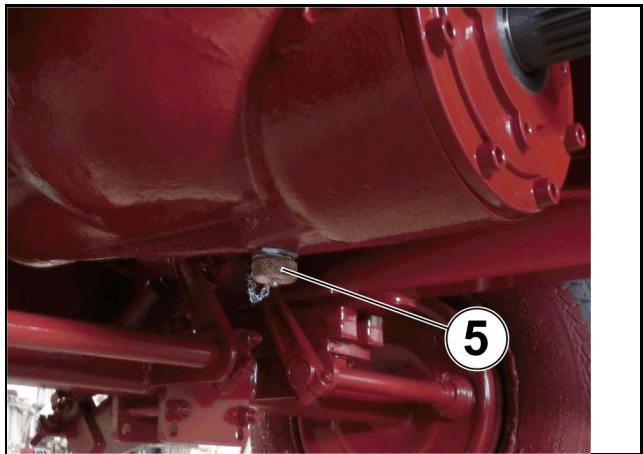
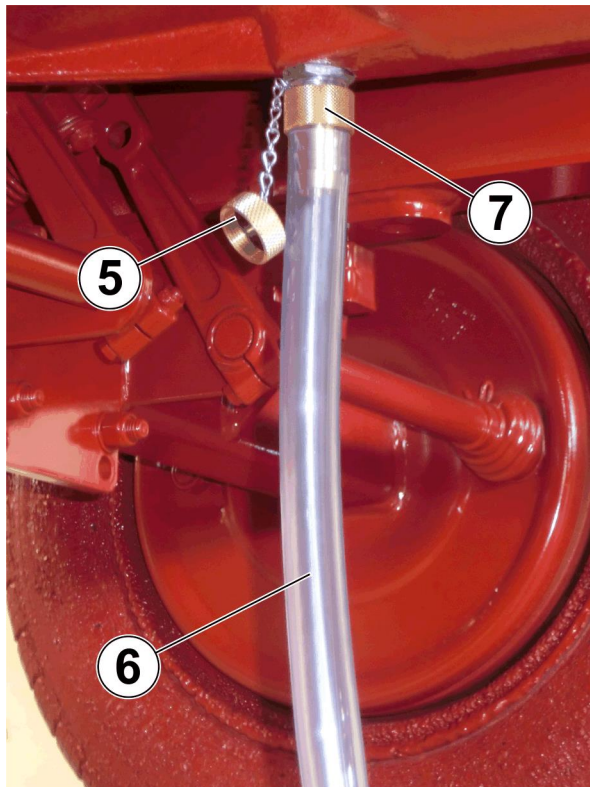

Fig. 84
Fig. 85
7. Place the drip tray beneath the drain valve (Fig. 84/5) of the mixer gearbox.
8. Hang the oil drain hose (Fig. 85/6) into the drip tray.
9. Remove the cap (Fig. 84/5, Fig. 85/5) from the drain valve.
10. Screw the end of the oil drain hose onto the drain valve by means of the union nut (Fig. 85/7).
16. Screw the cap (Fig. 84/5, Fig. 85/5) onto the drain valve.